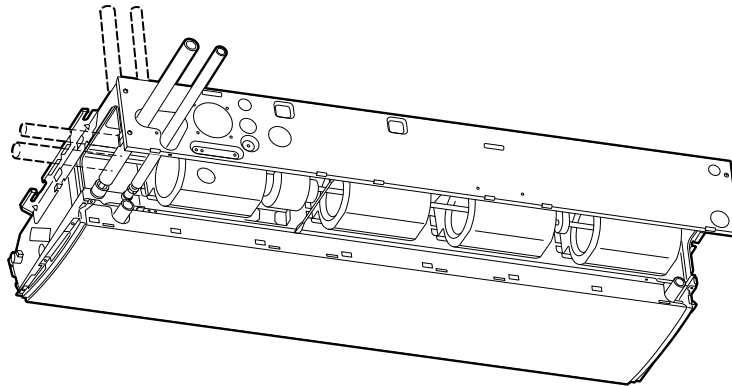

Fig. 3-78b
* If the drain hose is routed through the left side, refer to Fig. 3-78b, and follow the procedure above to install the hose. Reattach the rubber stopper that was earlier removed onto the right side. The rubber stopper can be inserted easily by using a screwdriver or similar tool to press the stopper into the drain port on the main unit. Press the stopper into the main unit drain port as far as it will go.